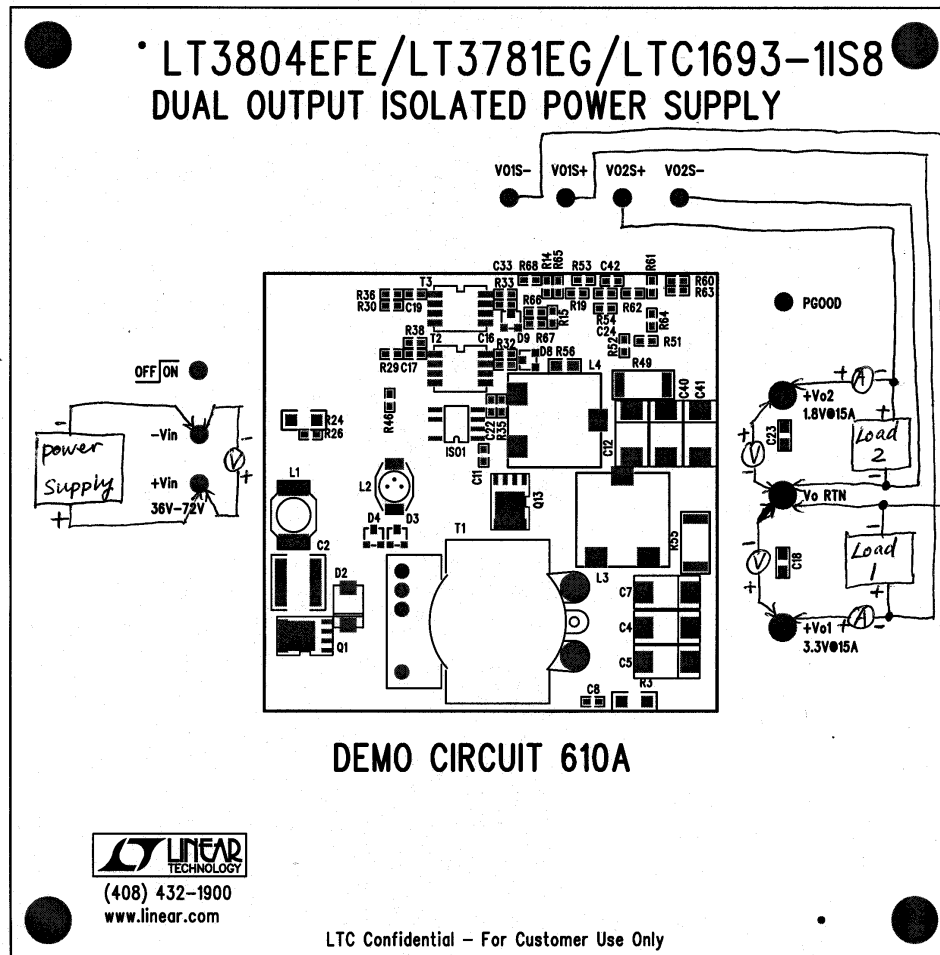

Figure 1. Proper Measurement Equipment Setup
Demonstration circuit 610 is easy to set up to evaluate the performance of the LT3804, LT3781, and LTC1693-1. Refer to Figure 1 for proper measurement equipment setup and follow the procedure below:
3. Connect the 3.3V load (Load 1 in Figure 1) between +Vo1 and Vo RTN; connect the 1.8V load (Load 2 in Figure 1) between +Vo2 and Vo RTN. (Initial loads: no load.)
4. Connect remote sense pins to loads: Vo1s+ to load 1+; Vo1s- to load 1-; Vo2s+ to load 2+; Vo2s- to load 2- (see Figure 1).